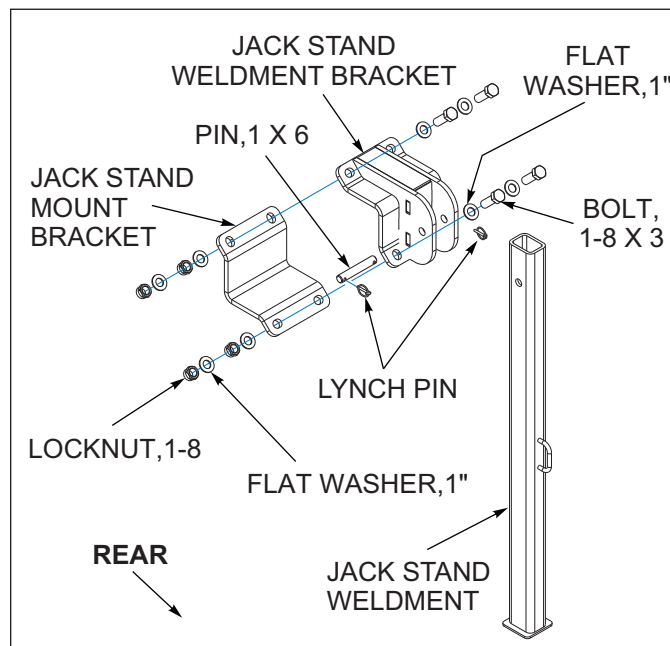

Figure 3-2: Rear Jack Stand
1. With the Jack Stand Mount Bracket positioned on the bottom side of the rear Frame, attach the Jack Stand Weldment Bracket (with the clamp facing out rear-ward), using 1-8 x 3 Bolts, 1" Flat Washers and 1-8 Locknuts. (*See Figure 3-2.*)